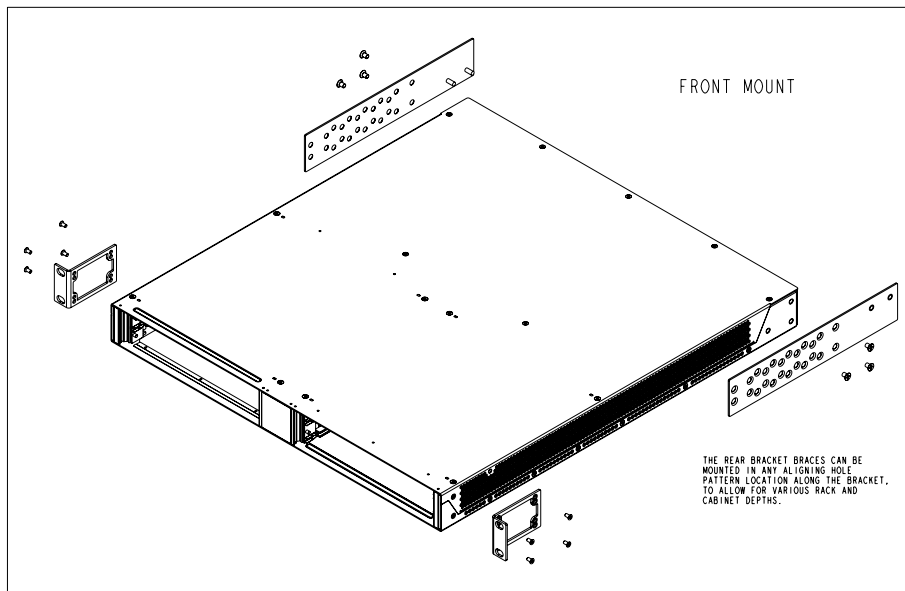

FIGURE 1-6 Front Mount for 9102/3
1. Place a bracket in the appropriate location as shown in Figure 1-6.